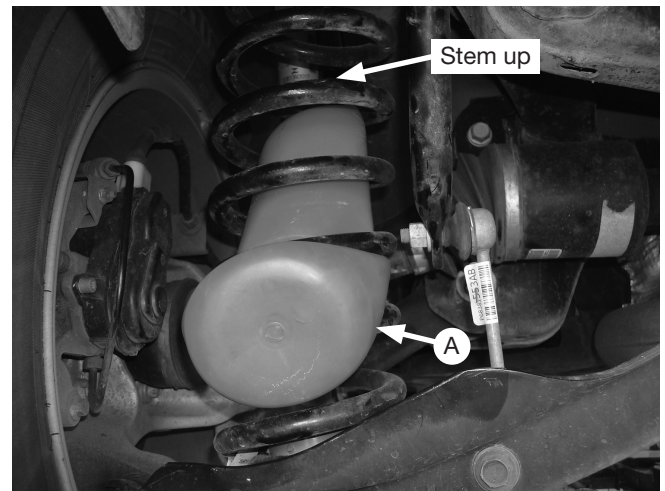

Fig. 4
2. Insert the flattened end of the air spring (A) into the bottom opening of the coil spring (with the stem at the top) (Fig. 4). Push the air spring up into the coil spring by hand or with a blunt instrument such as a spoon-type tire iron.